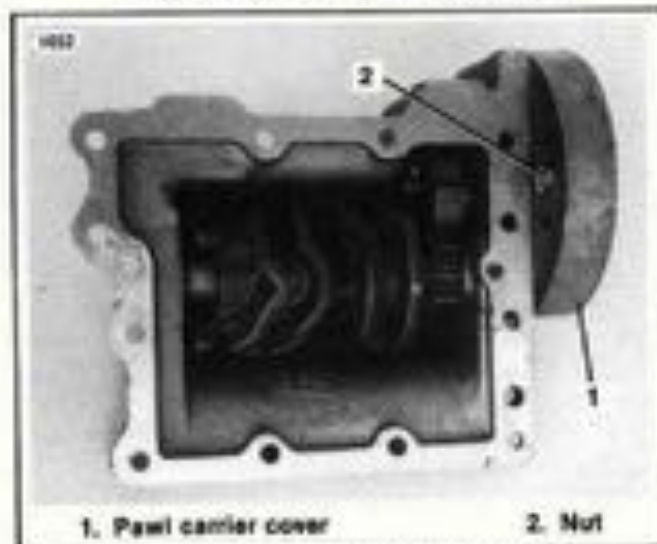

Figure 7-5. Pawl Carrier Cover Mounting
4. See Figure 7-5. Remove the pawl carrier cover (1) mounting screws and gasket. The bottom mounting screw is secured by a nut (2) at the back of the adapter plate.
10. See Figure 7-5. Lubricate the back of the pawl carrier with a multi-purpose grease. Install the cover gasket and cover so that the notch on the cover lines up with the notch on the adapter plate. Apply Loctite LOCK N' SEAL to the threads of the mounting screws. Install the shorter mounting screw in